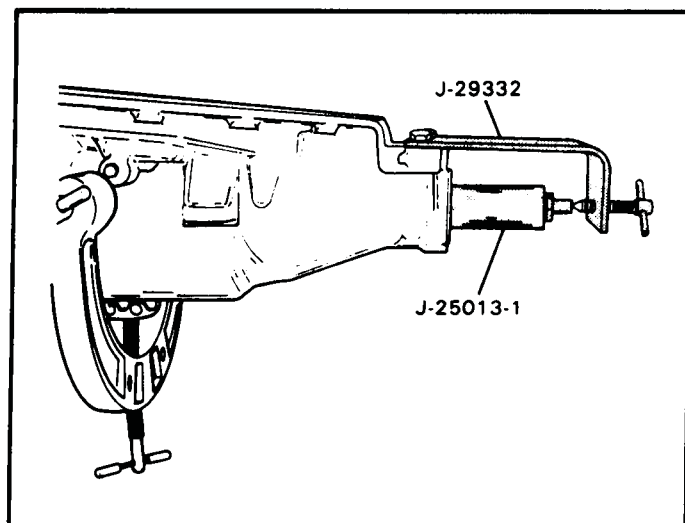

Figure 106
4. Turn the adjusting screw on the holding fixture until white/scribed line begins to dissapear, as shown in Figure 106.